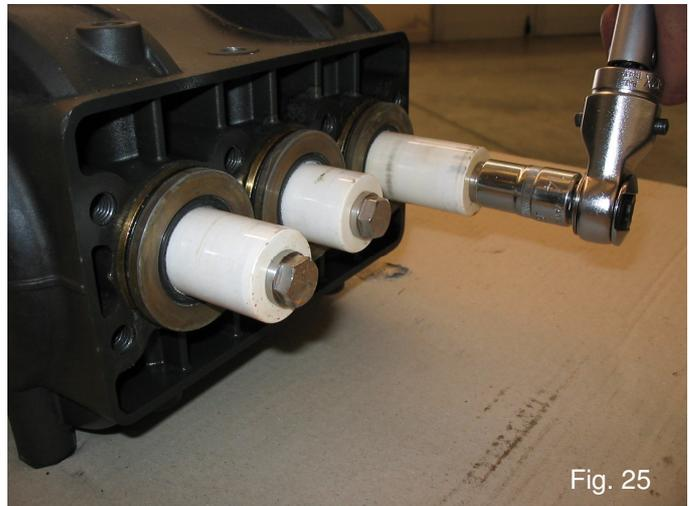

Fig. 25
A) - Loosen and remove the plunger screw 1, Fig.25.